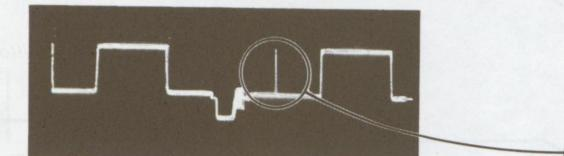

Fig. 5-59.
12. Turn L2 on the BB board for adjusting the TP 4 waveform as shown in Fig. 5-59. (2T pulse correction adjustment)